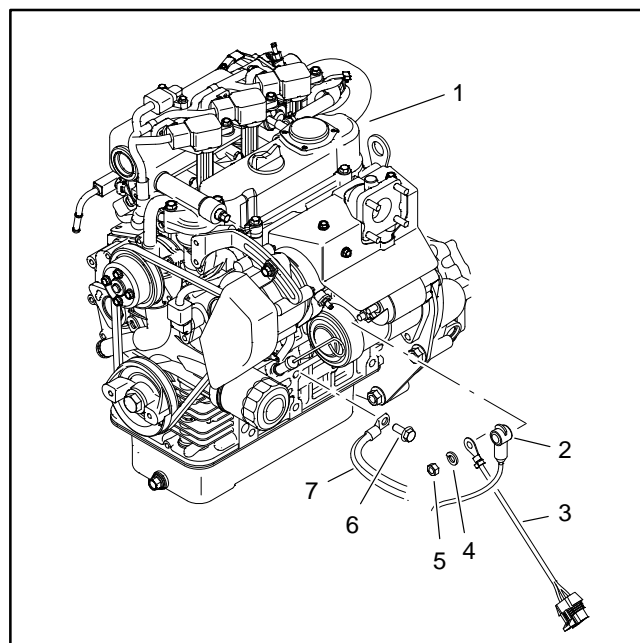

Figure 15
F. Negative (–) battery cable and harness ground connector secured to engine mount (Fig. 15). Note location of ground connections and flange head screw for assembly purposes.
- F. Negative (–) battery cable and harness ground connector secured to engine mount (Fig. 15). Note location of ground connections and flange head screw for assembly purposes.